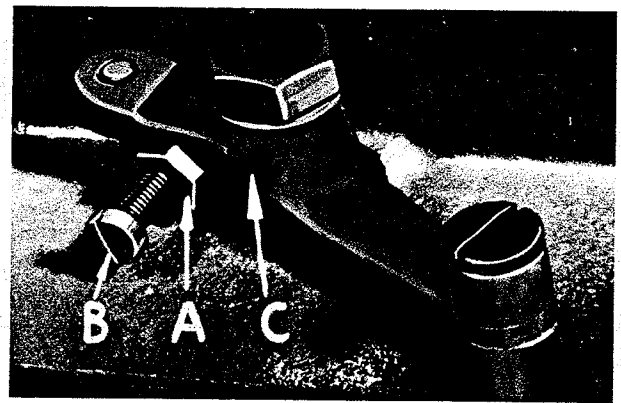
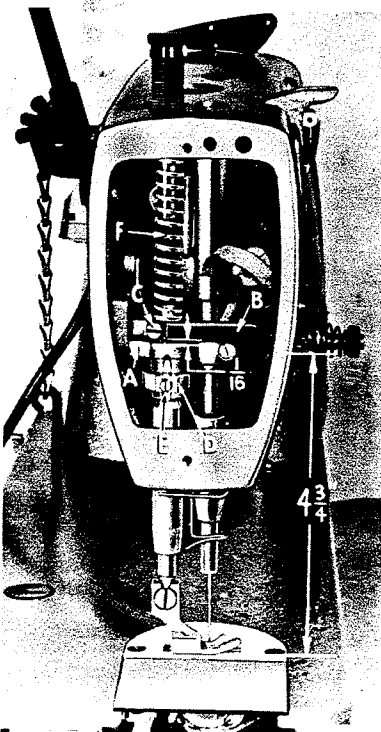

Fig. 15
Fig. 16
The presser bar connection (A, Fig. 16) should be set so that it is about 1/16 inch below the presser bar guide (B). This is accomplished by tipping the machine back against the rest pin, loosening the lock nut (A, Fig. 15), and relocating the stop screw (B) on the lifter lever bell crank (C). By turning the stop screw to the right or left, the proper setting of the presser bar connection is accomplished. Tighten the lock nut (A) to lock the stop screw in place.
When locating the presser bar guide (B, Fig. 16), the presser foot must rest directly against the throat plate with the feed dog in its lowest position. The guide is set properly when there is a 4 3/4 inch space between the thread take-up wire and the top of the throat plate (Fig. 16)
The tension release should be set so that it will not release when sewing over seams or when the presser foot is raised for back tacking. The adjustment of the tension release cam (D, Fig. 16) and the in and out position of the tension assembly are required for proper operation.
The tension release cam (D, Fig. 16) should now be positioned by loosening set screw (E, Fig. 16) and then raising or lowering the cam to suit the sewing conditions, the average release point being between 1/4 to 5/16 inch of presser foot lift above the throat plate. Tighten tension release cam set screw securely.